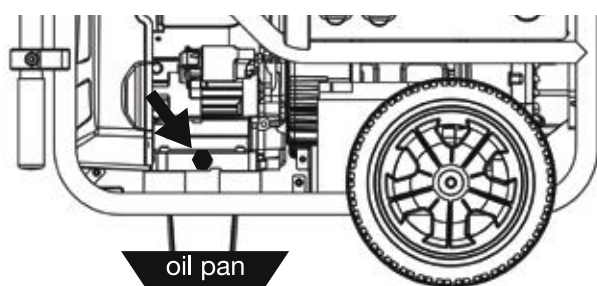

Figure 16 - Oil Drain Plug
3. Place oil pan (or suitable container) under the oil drain plug (see Figure 16).
5. Remove the oil drain plug (see Figure 16). Once removed, place the oil drain plug on a clean surface.